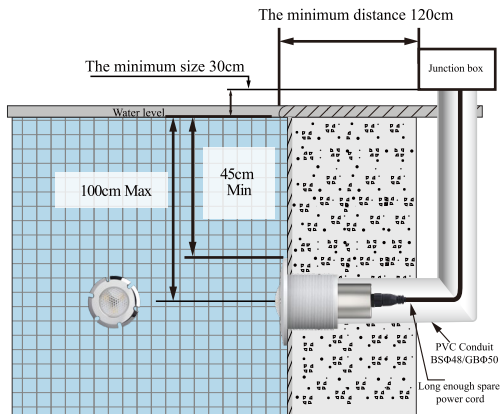

Figure 1
2.4. At least 1.5m long spare wires are reserved for the installation of this underwater light to be used as a connection line for future replacement and maintenance, as shown in **Figure 1**;